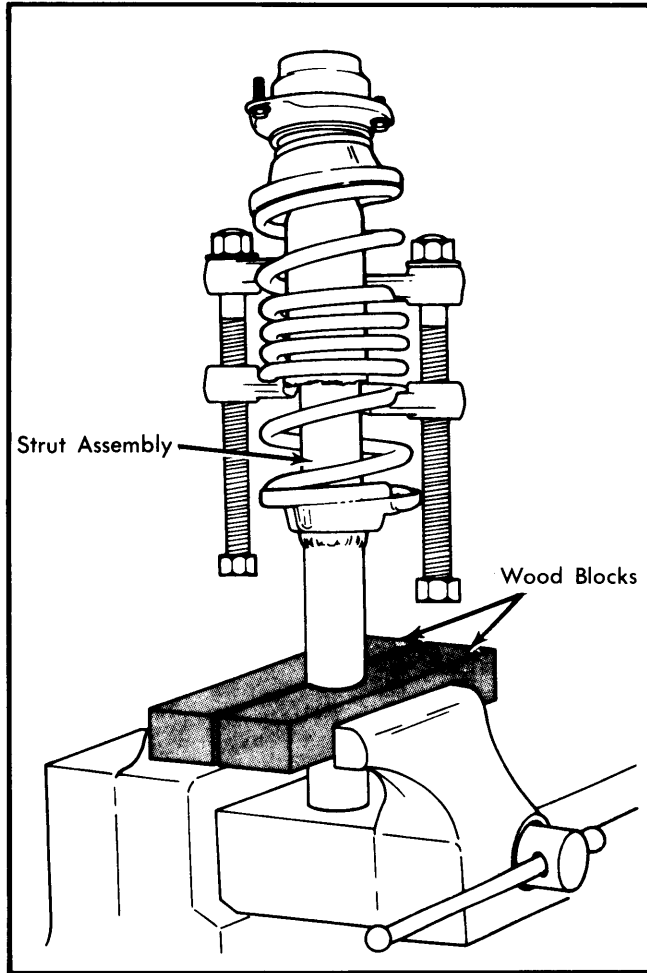

Fig. 5 Positioning Strut Assembly and Wood Blocks in Vise
5) Place an 18 mm deep socket on strut shaft nut. Insert a 6 mm Allen wrench into shaft end and clamp mount in vise with wood blocks as shown in Fig. 5.